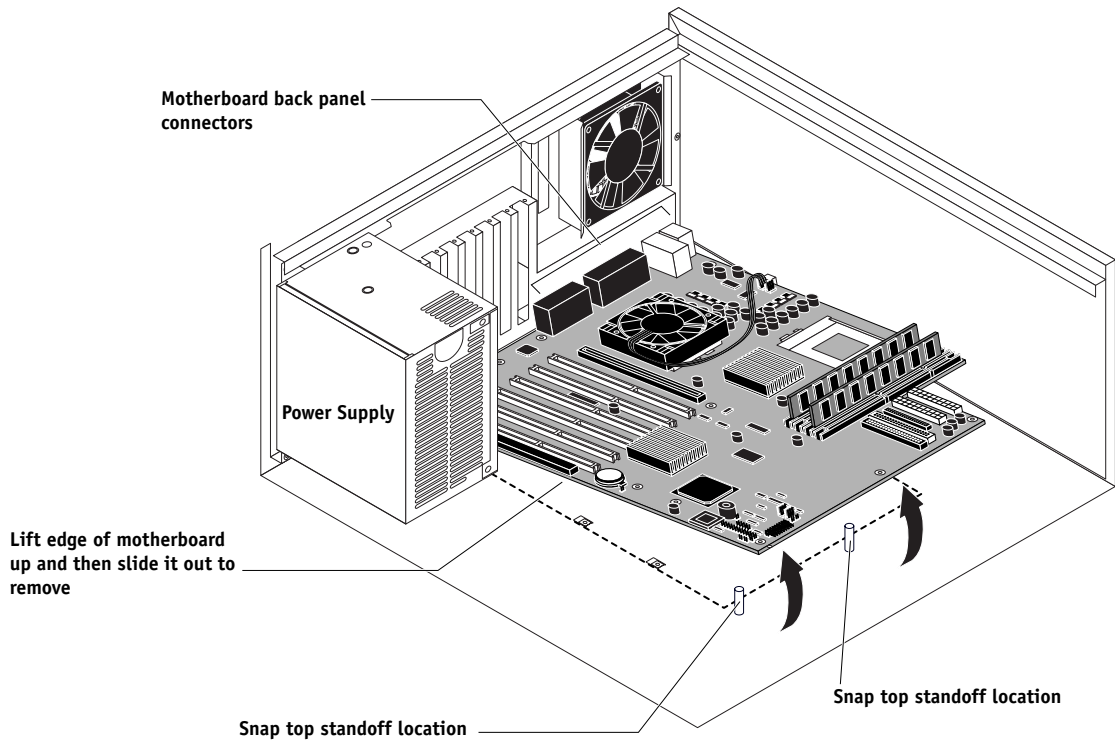

FIGURE 4-16 Removing the motherboard
- 4. Remove the 10 mounting screws on the motherboard (see Figure 4-16 on page 4-27).**
6. Gently slide the motherboard out of the E-810 chassis (see Figure 4-16).
2. **Angle the motherboard so the back panel connectors on the motherboard fit into the cutouts in the back of the chassis. See Figure 4-16 on page 4-27.**
3. **Align the mounting holes on the edge of the motherboard (opposite the back panel connectors) with the standoffs located in the base of the chassis (see Figure 4-16 on page 4-27).**